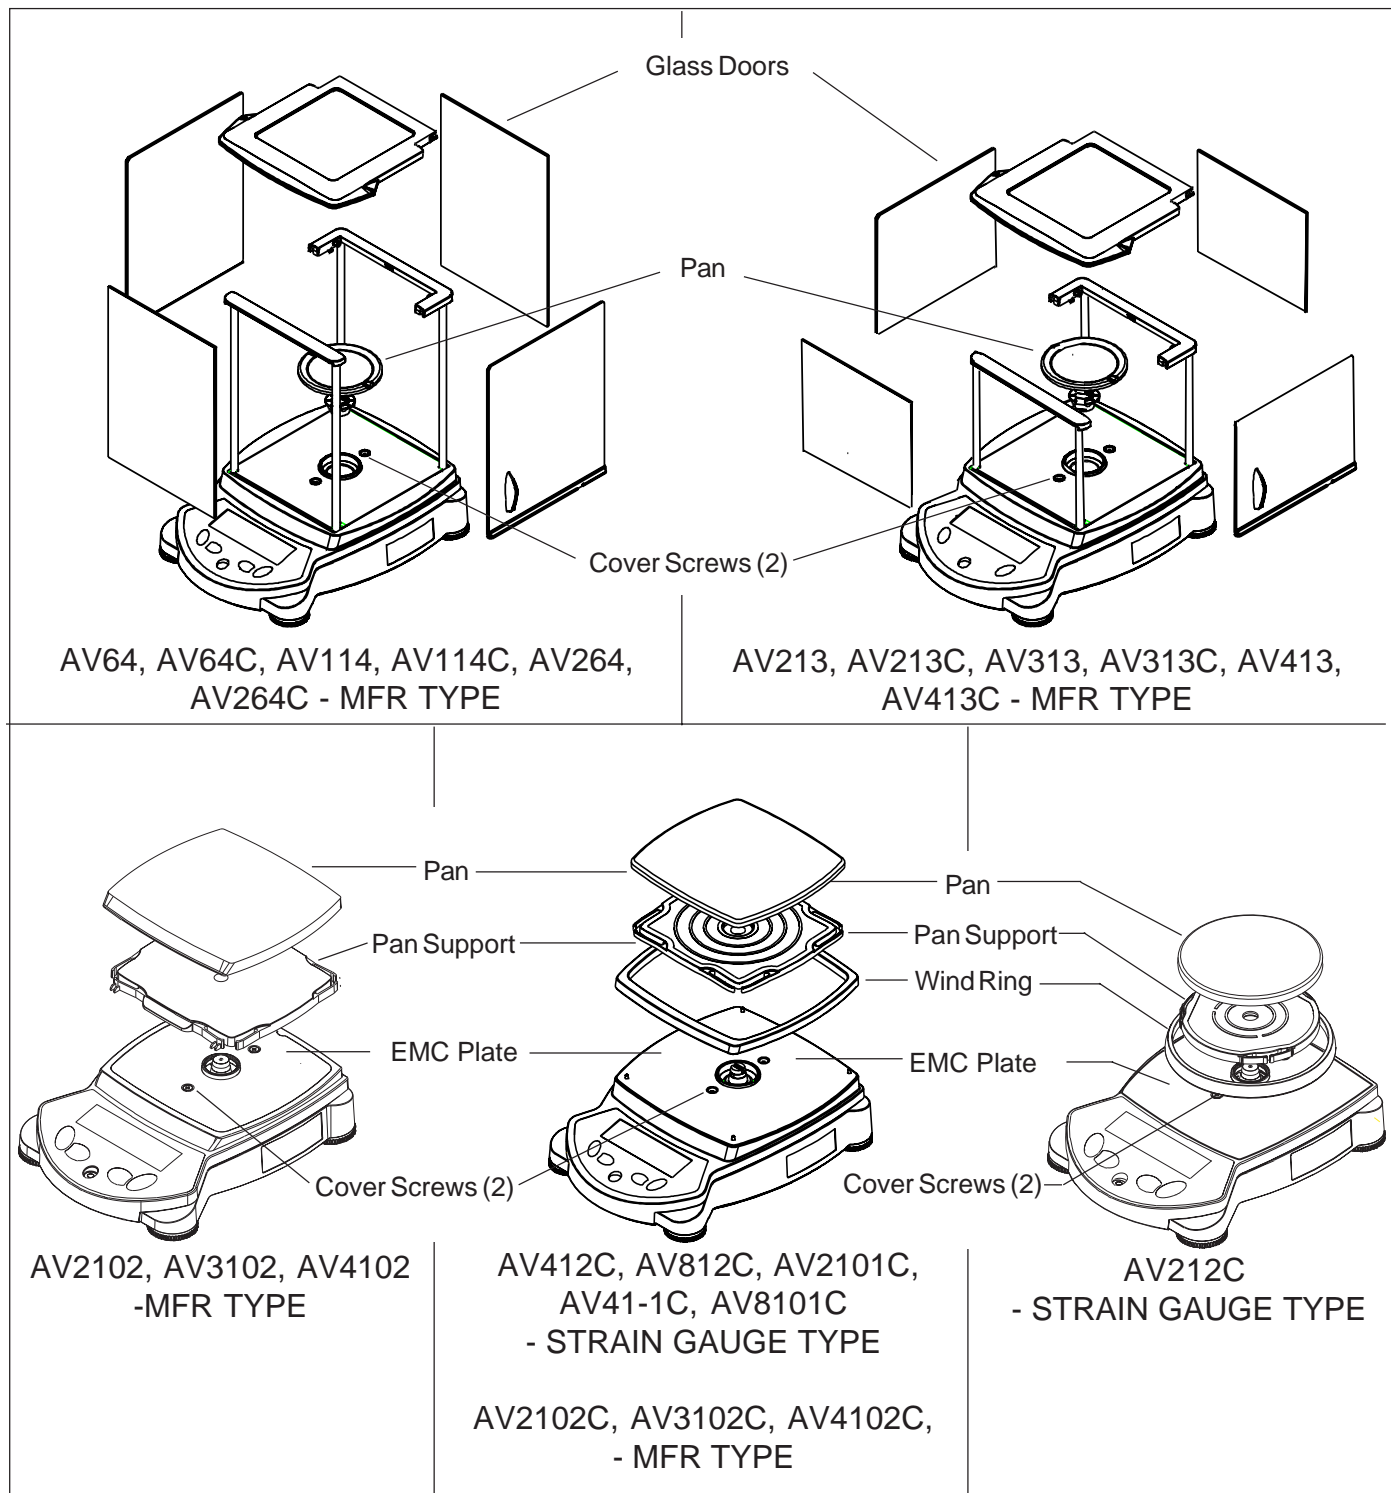

Figure 3-7. Top of AV Balances.
To disassemble the balance, refer to Figures 3-7 and 3-8 that illustrates all of the Adventurer AV and Adventurer AS models. Components shown on top of the balances must be removed before gaining access to the inside of the balance. proceed as follows:
7. Remove the 2 screws from the top of the balance located at the rear, these are long threaded bolts. These are covered by the anti EMC Plate. See Figures 3-7 and 3-8.